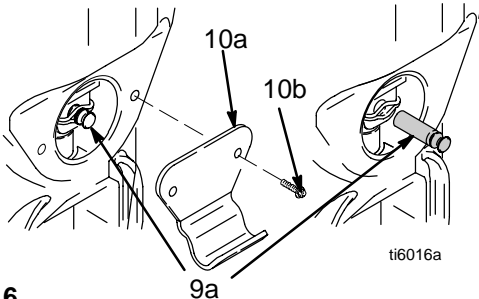

Fig. 6
1. Flush pump (13).
2. Fig. 6. Loosen two screws (10b) and rotate cover (10a).
2. Fig. 6. Install pump pin (9a). Verify retainer spring is in groove of pump pin.
8. Fig. 6. rotate cover (10a); tighten screws (10b).